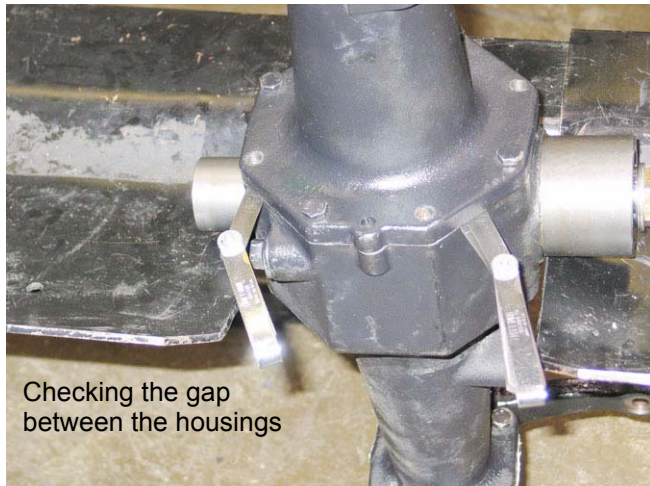

Figure 9.51
9.51. To determine the amount of shimming necessary to maintain .003”-.010” (.076-.254 mm) end play, it is necessary to intentionally over-shim, creating a gap between the left and right housings. See Figure 9.51.